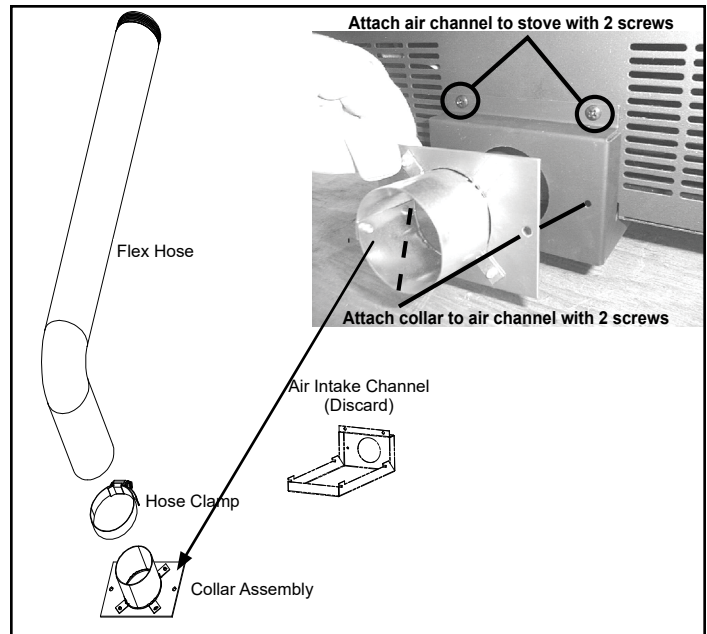

Figure 20.3
3. Secure air channel to appliance with 2 screws and secure the collar assembly to the air channel with 2 screws (**Figure 20.3**).